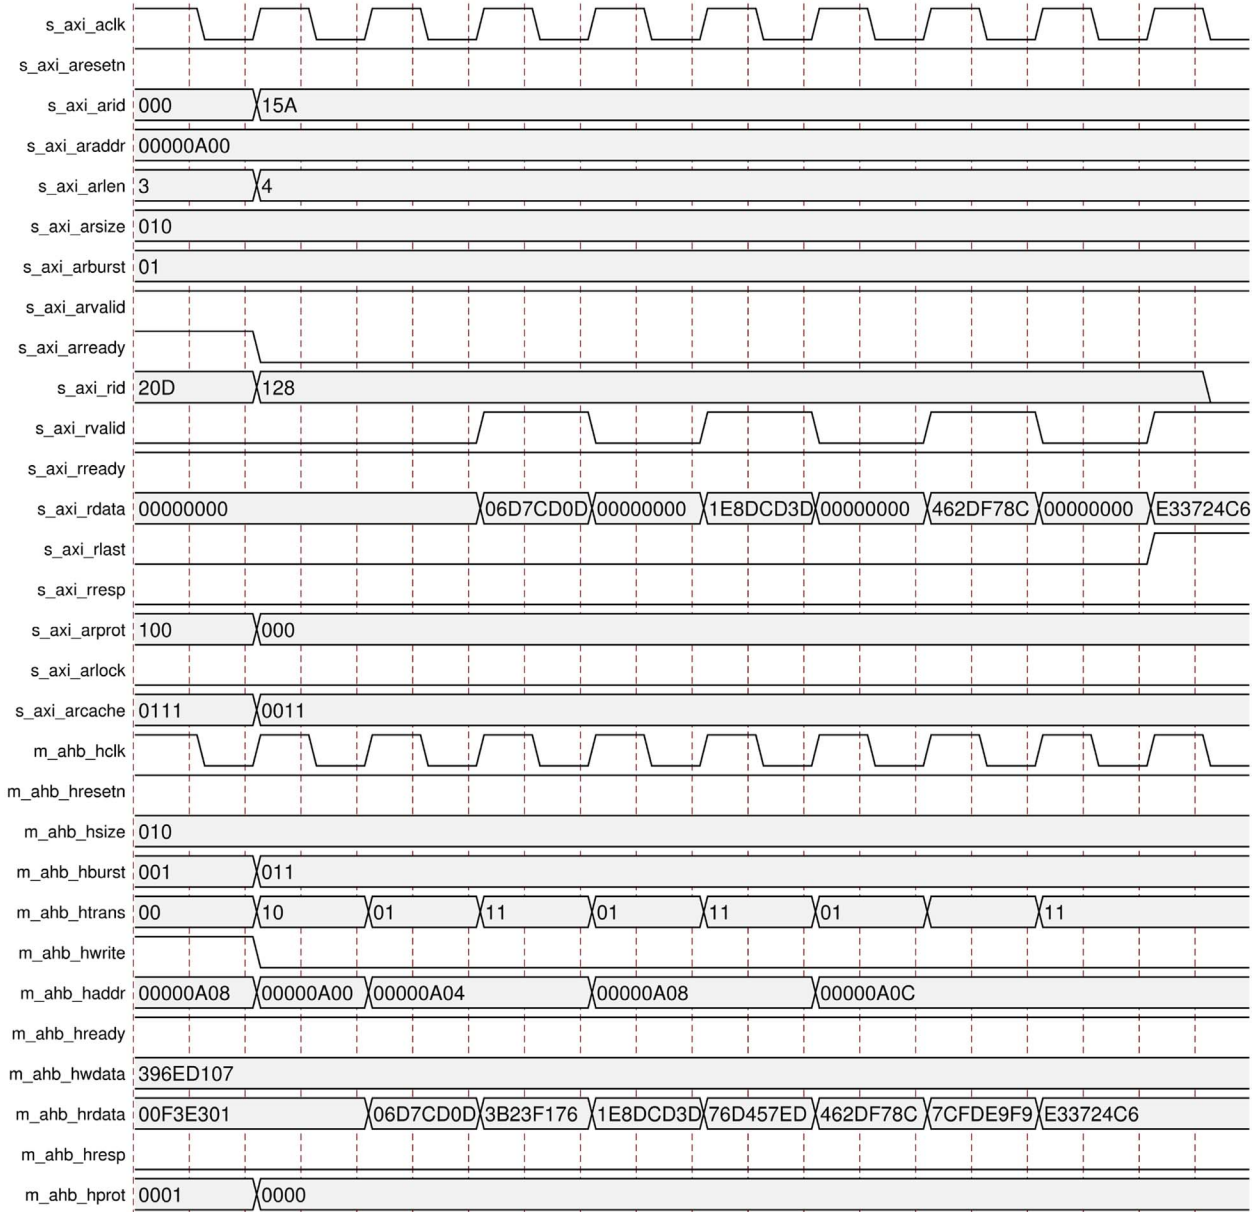

Figure 3-5: AXI4 Incrementing Burst Read Transfer of Length 4
5. AXI4 incrementing burst read transfer of length 4 is shown in Figure 3-5.